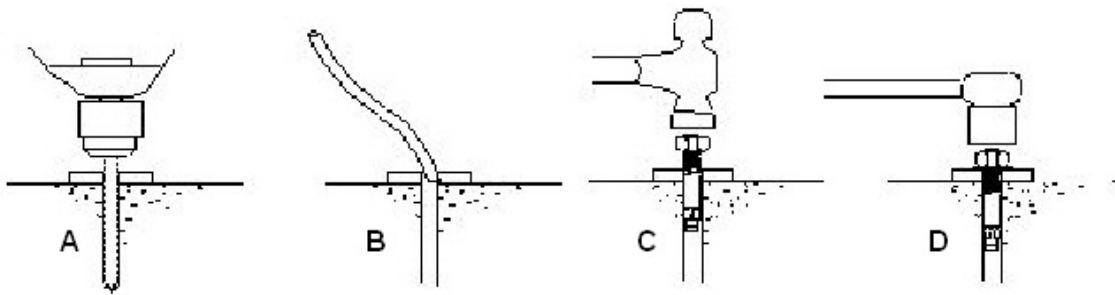

Figure 2-4. Anchor Hole Drilling and Seating
6. Secure the columns to the foundation as follows (refer to figure 2-4):
- a) Using a 3/4 in. diameter concrete drill, drill the anchor holes in the concrete for the main side column, installing anchors as you go. Use a concrete hammer drill with a carbide tip solid drill bit the same diameter as the anchor, 3/4". (.775 to .787 inches diameter). Do not use excessively worn bits or bits which have been incorrectly sharpened. Refer to figure 2-4 Detail A. Use the following guide while drilling the anchor holes in the concrete:
- 4) For better holding power blow dust from the hole (Refer to figure 2-4 Detail B).
- b) Place a flat washer and hex nut over threaded end of anchor, leaving approximately 1/2 inch of thread exposed and carefully tap anchor (Refer to figure 2-4 Detail C). Do not damage threads. Use a block of wood or rubber mallet to drive anchor bolts into the concrete.
- c) Tap anchor into the concrete until nut and flat washer are against base plate. Do not use an impact wrench to tighten (Refer to figure 2-4 Detail D).